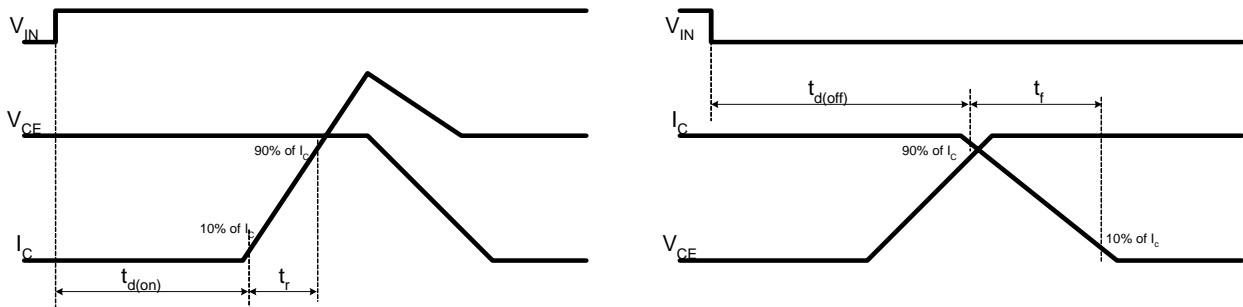

Figure 4. Switching Time Definition
2. t_{ON} and t_{OFF} include the propagation delay time of internal drive IC. For the detailed information, please see Figure 4.